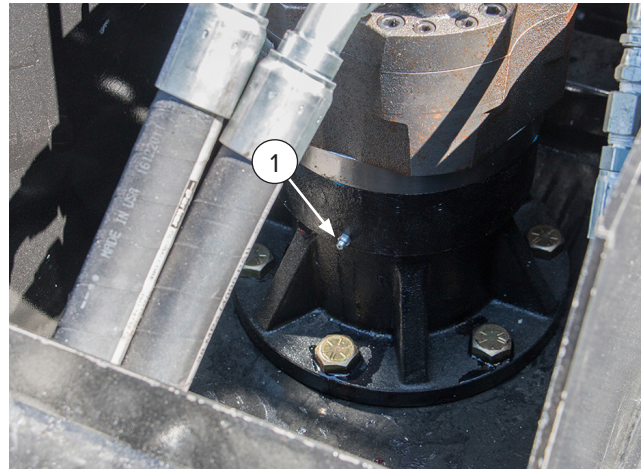

Figure 4
Apply 3 – 4 pumps of grease to the grease zerk (item 1) [Figure 4].